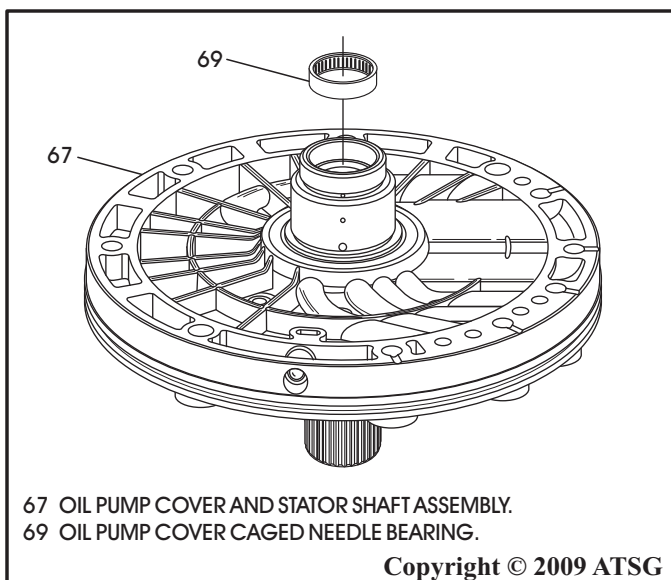

Figure 90
13. Install new caged needle bearing in oil pump cover as necessary, as shown in Figure 90, using the proper driver.